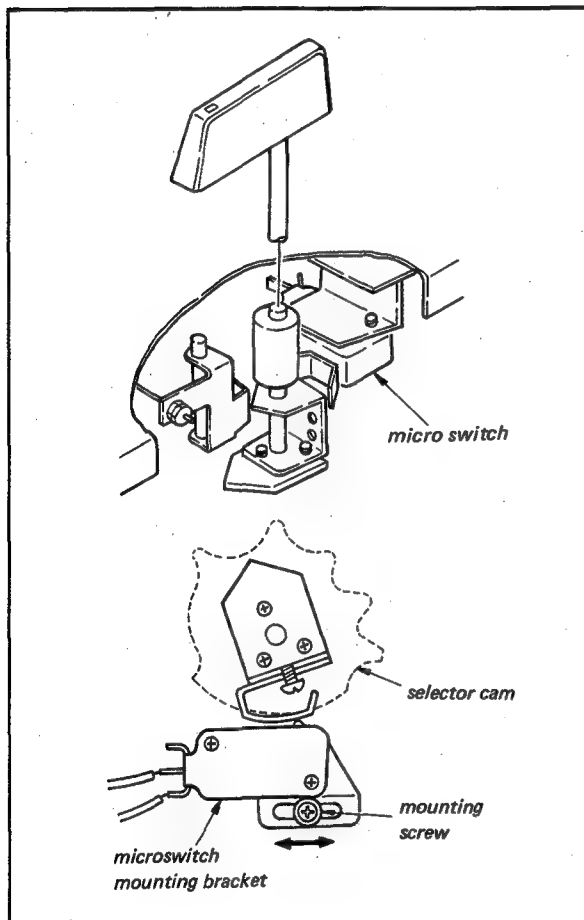

Fig. 4-33. Microswitch adjustment
1. Set the Function Lever to the STOP mode. Make sure that the microswitch actuator is in the center of the Cam. See Fig. 4-33.